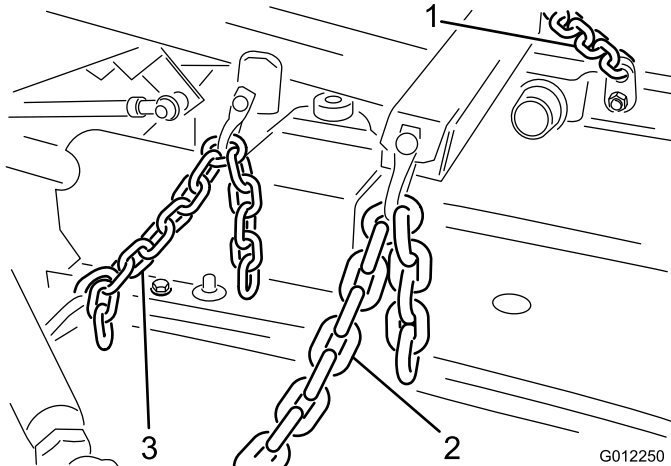

Figure 9
1. Connect the lift chains to the lift arm and cutting unit chain brackets with 6 shackles, shackle pins (3/8 x 1-1/2 inches), and cotter pins (1/8 x 3/4 inch) (Figure 9). To ensure that the cutting unit lifts properly, secure the chains to the following links when connecting: